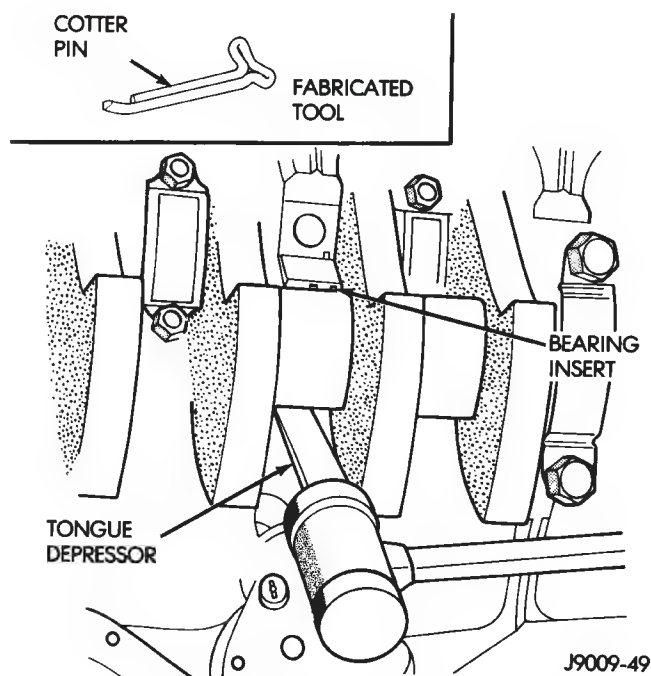

Fig. 2 Removing Upper Inserts
- (6) Remove the lower insert from the bearing cap.
- (7) Remove the upper insert by LOOSENING (DO NOT REMOVE) all of the other bearing caps. Now insert a small cotter pin tool in the crankshaft journal oil hole. Bend the cotter pin as illustrated to fabricate the tool (Fig. 2). With the cotter pin tool in place, rotate the crankshaft so that the upper bearing insert will rotate in the direction of its locking tab. Because there is no hole in the No.3 main journal, use a tongue depressor or similar soft-faced tool to remove the bearing insert (Fig. 2). After moving the insert approximately 25 mm (1 inch), it can be removed by applying pressure under the tab.
- (8) Using the same procedure described above, remove the remaining bearing inserts one at a time for inspection.